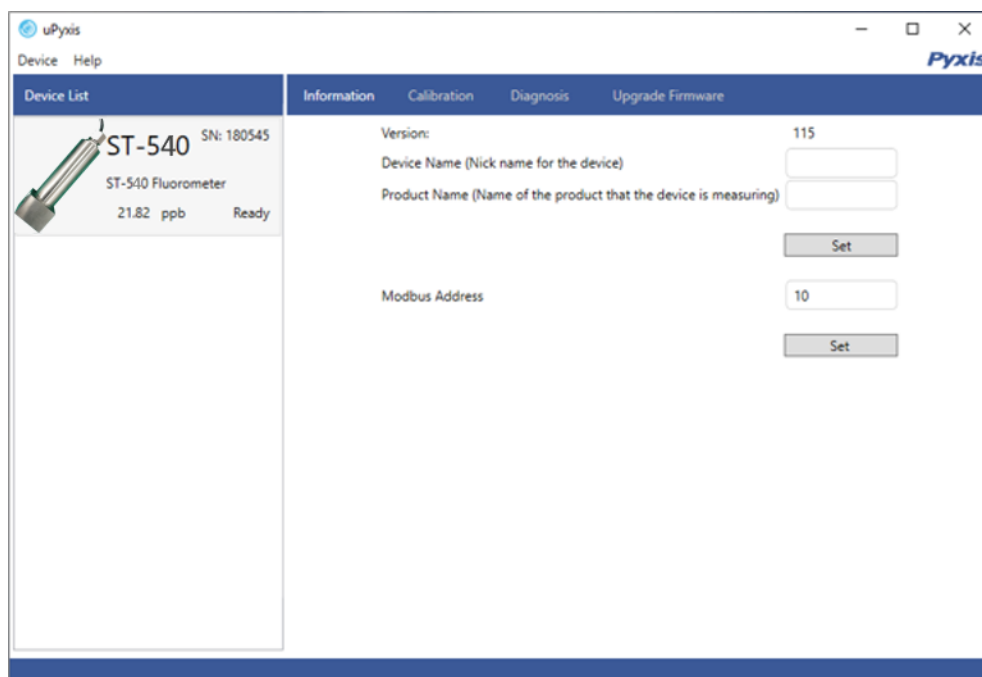

Figure 11. Connected to a ST-540 sensor and information page
4. Select the Comm Port to make a connection (Figure 11) (normally only one Comm port is identified by uPyxis. If more than one Comm port listed in the selection dropdown, you may try to select each one to see if a connection can be made. Alternatively, you may use the Windows Device Manager to identify the Comm Port that the Pyxis USB adapter is used.)